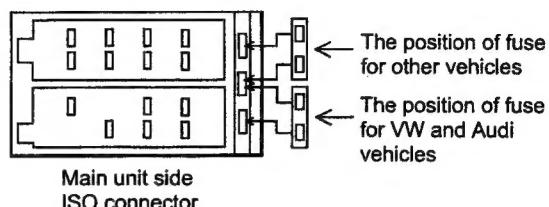

Figure 1
- For VW and Audi vehicles, change the position of fuse installation as shown on the diagram. (Figure 1)